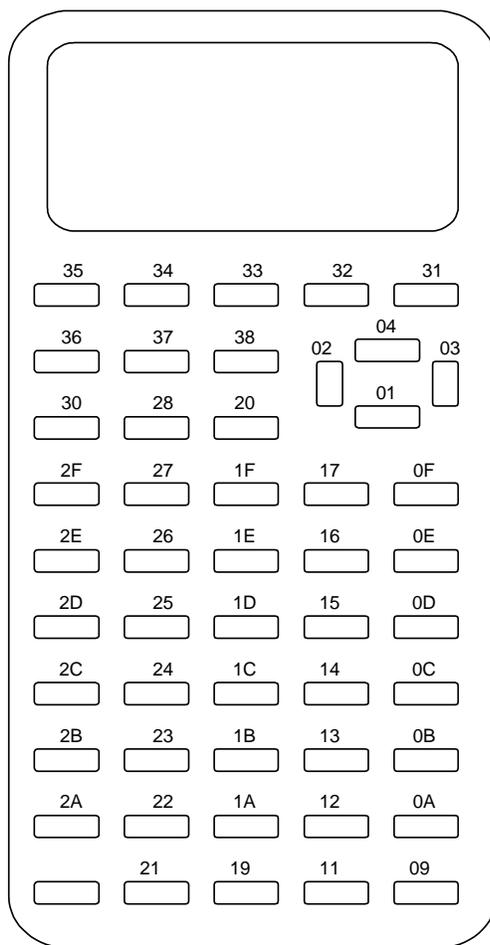

Fig. 2.8: Calculator Scan Code
- The scan code values are equated in the include file named TI83plus.inc. Fig. 2.8 below shows the scan codes associated with their keys.